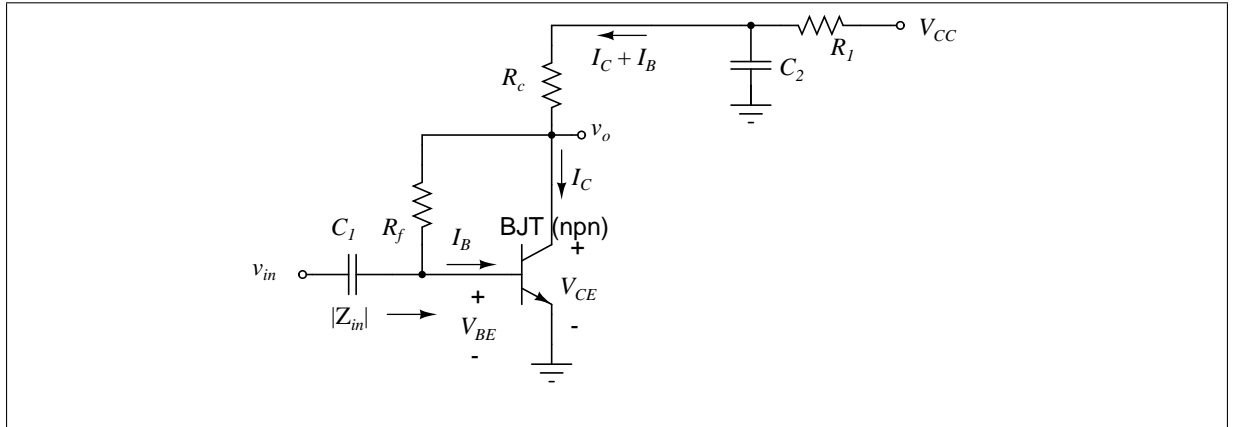

Figure 1: Schematic of an RF amplifier using a BJT.
1. An RF amplifier can be built using a BJT. Refer to the circuit given in Fig. 1. TRC-11 uses two of such amplifiers. The values of the resistors and capacitors should be calculated as described below.
1. The first RF amplifier circuit to be built is the first IF amplifier. A schematic diagram of the first IF amplifier is given in Fig. 1. Mount the three leads of the transistor Q50